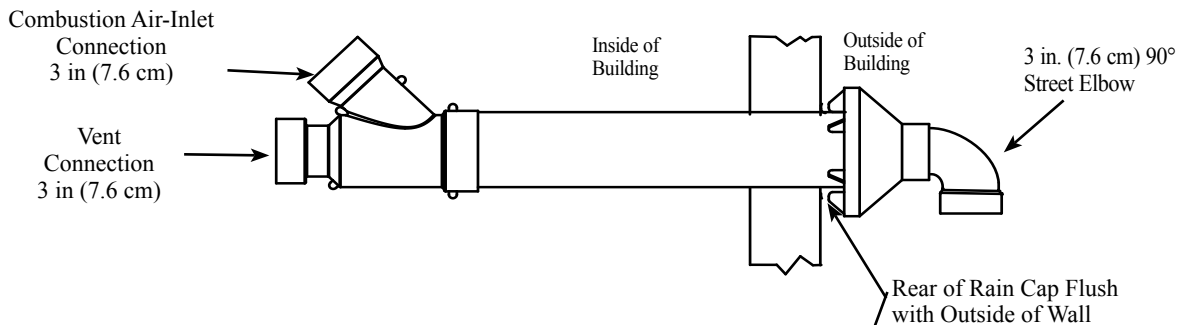

Figure 5
- Clean and cement a 3 in. (7.6 cm) diameter, Schedule 40, PVC, 90°, 1/4 standard bend elbow to the rain cap (See Figure 5).
- The terminal may be installed with the Combustion Air-Inlet Connection orientated in any position from upward vertical (See Figure 5) to 90° horizontal (See Figure 6).